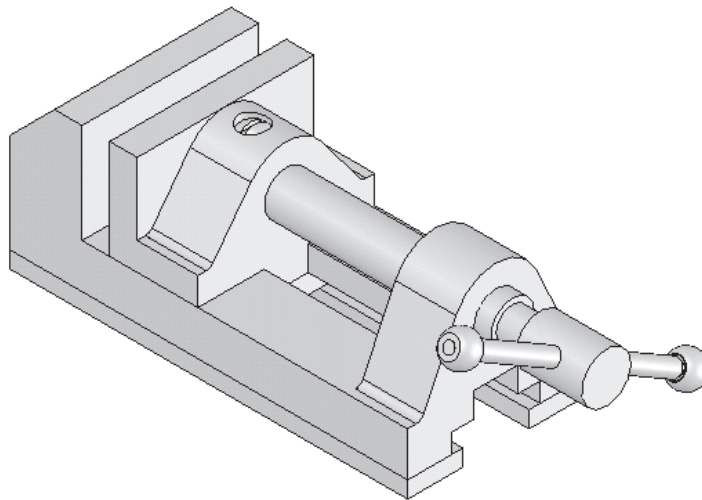
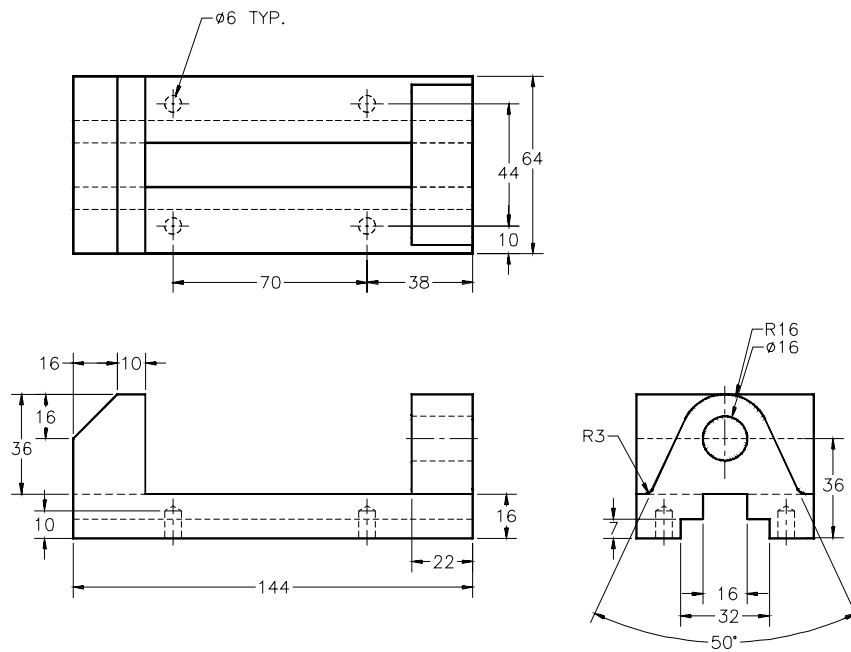

Figure 12-51 Bench Vice assembly
Figure 12-52 Views and dimensions of the Vice Body
In this tutorial, you will create all components of the Bench Vice and then assemble them. The Bench Vice assembly is shown in Figure 12-51. The dimensions of various components of the assembly are given in Figures 12-52 through 12-55. **(Expected time: 2 hrs 45 min)**
1. Create all the components of the Bench Vice assembly as separate part documents. Specify the names of the documents, as shown in Figures 12-52 through 12-55. The files should be saved in the folder `|My Documents|SolidWorks|c12|Bench Vice`. Make sure that the *Bench Vice* is your current folder.